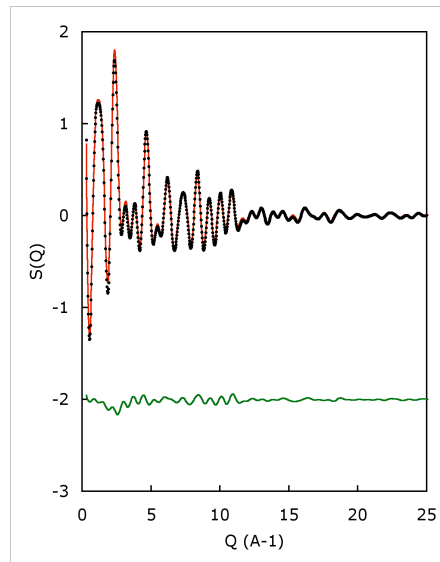

Figure 4.4: A typical equilibrium RMC fit to neutron scattering data for MnO.
First, we can take a look at the new fit-to-data, once again by plotting the values given in **mno.dat**; a representative plot is given in Fig. 4.4. The key difference with the previous fit is that the (111) magnetic peak is now well modelled. Note that our refinement only involved moving the magnetic moments (all the atom positions remain the same), so it really is the magnetic structure that accounts for this peak.